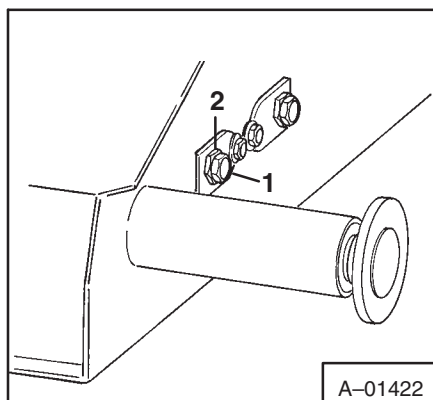

Fig. 91 Adjusting & Locking Nuts
4. Loosen the 5/8" locking nut (Fig. 91, Item 1) from the clutch being removed.